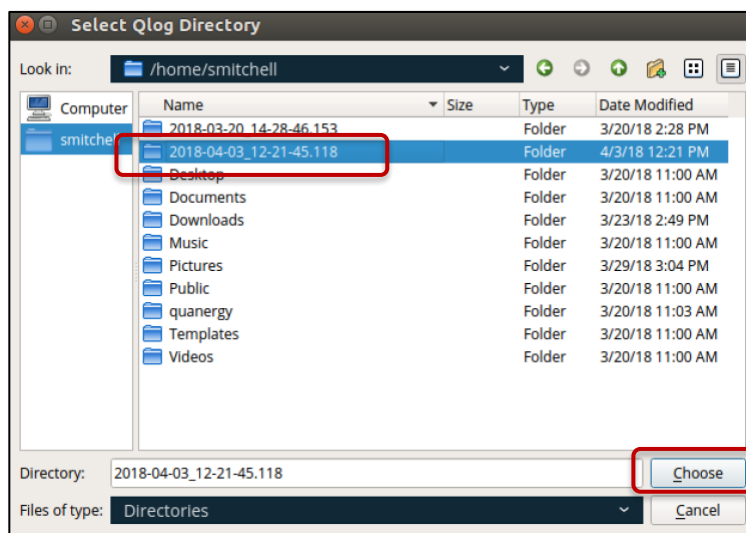

Figure 34. Visualize Tab: Select Playback Data Directory
- Select the directory, then click the **Choose** button. See Figure 34. Visualize Tab: Select Playback Data Directory.